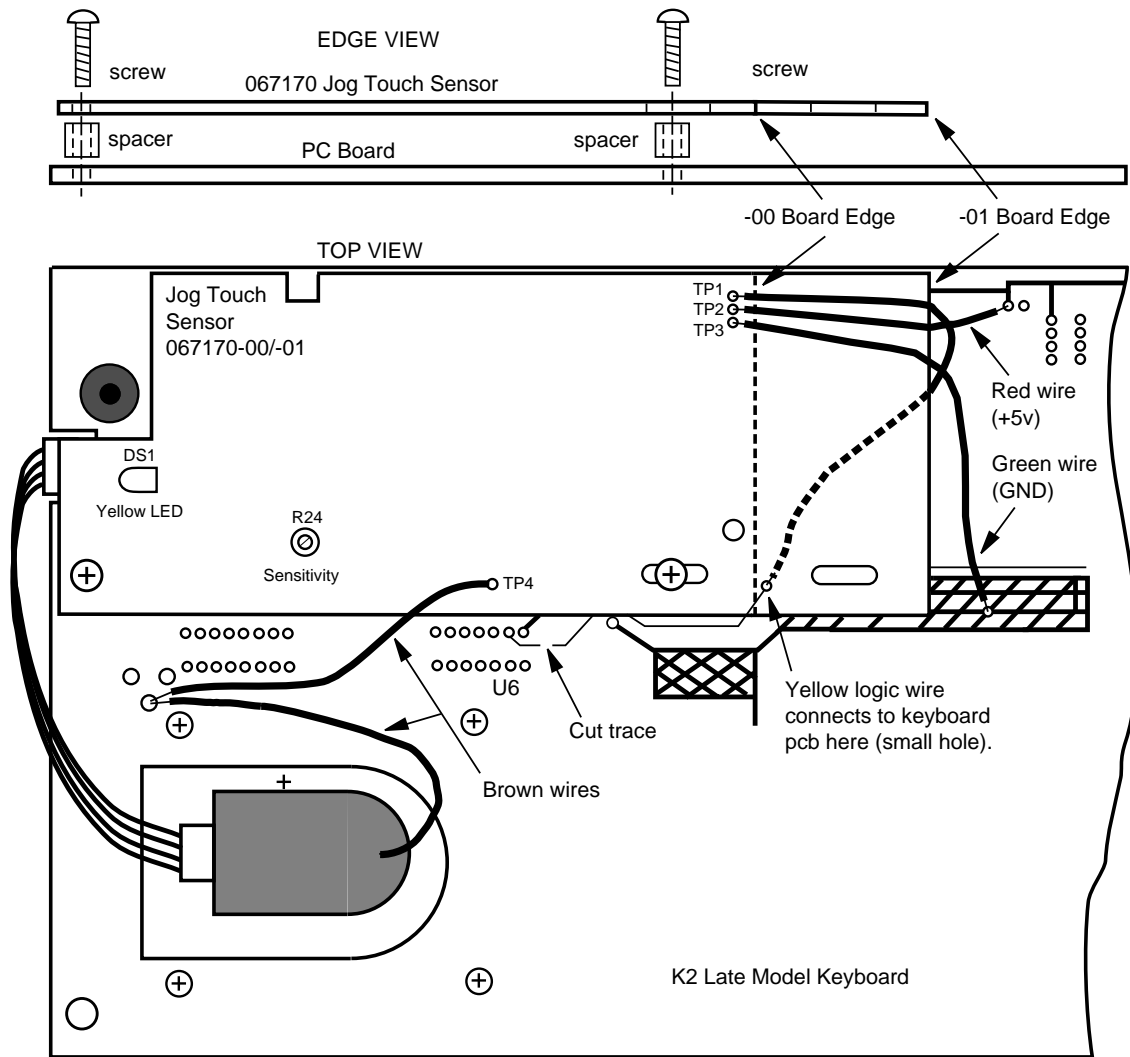

Figure 7. Installation of Jog Touch Sensor Submodule on Late Model Keyboards
15. **For late model keyboards only**, put the keyboard back into its case and fasten it in place using the screws removed earlier. Note in Figure 7 (next page) that two of the holes in the keyboard and corresponding mounting bosses in the case are used for mounting the new Jog Touch Sensor submodule; leave the screws out of those two holes.
16. **For late model keyboards only**, loosely place the new Jog Touch Sensor submodule into the position where it will mount as shown in Figure 7. Do not fasten it into place yet because some wires must be soldered to the keyboard underneath the submodule. Connect the submodule wires to the keyboard as follows:
17. **For late model keyboards only**, position the supplied spacers over the two unused keyboard screw holes, between the keyboard pcb and the submodule. Then line up the new 067170 Jog Touch Sensor submodule on top of the keyboard pcb and spacers as shown in Figure 7. Insert the remaining two screws through the holes in the submodule, spacers, and keyboard pcb. Tighten the screws to fasten the submodule to the keyboard pcb and case.